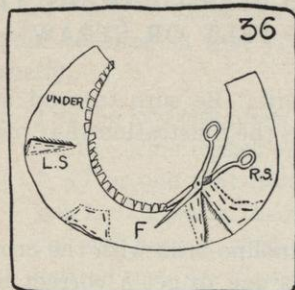

FIG. 36.
- (4) Cut right through brim directly in back if there is no shaped lap.
- (5) Remove all pins or bastings at headsize only. This will enable you to take brim off headsize band or crown easily.
- (6) Cut off crinoline on line that was penciled to indicate headsize (see Figure 36).